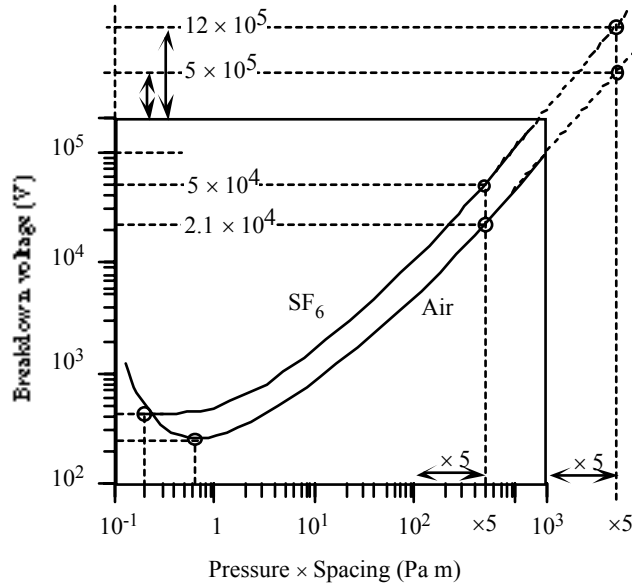

Figure 7Q19-1: Breakdown voltage versus (pressure \times electrode spacing) (Paschen curves)
a. At pressure $P = 1 \text{ atm} = 1.013 \times 10^5 \text{ Pa}$ and air gap $d = 5 \text{ mm}$, $P \times d = (1.013 \times 10^5 \text{ Pa})(0.005 \text{ m}) = 506.5 \text{ Pa m}$. From Figure 7Q19-1, the corresponding values of breakdown voltage for air (V_{air}) and for SF_6 (V_{SF_6}) are:
b. At $P = 10 \text{ atm} = 1.013 \times 10^6 \text{ Pa}$ and $d = 5 \text{ mm}$, $P \times d = (1.013 \times 10^6 \text{ Pa})(0.005 \text{ m}) = 5065 \text{ Pa m}$. Using linear extrapolation on Figure 7Q19-1: